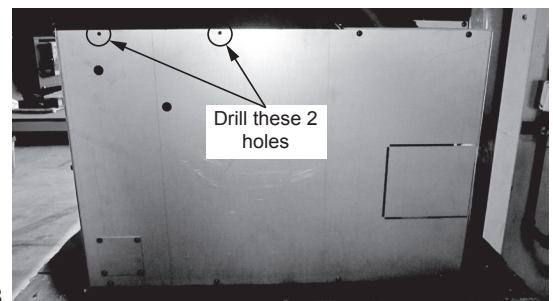

Figure 21.8
11. Using the electric drill with #26 drill; bit drill 2 holes into the back of the hopper. Add two screws to secure shroud assembly to the appliance (**Figure 21.8**).